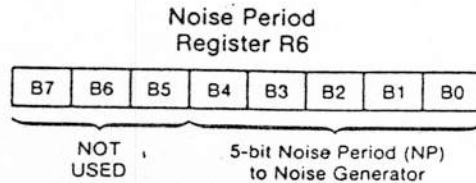

Figure 3-5. NOISE PERIOD REGISTER R6
3.3.7.2 Noise Generator Control (Register R6). -- The frequency of the noise source is obtained in the PSG by first counting down the input clock by 16, then by further counting down the result by the programmed 5-bit Noise Period value. This 5-bit value consists of the lower 5 bits (B4--B0) of register R6, as illustrated by Figure 3-5.